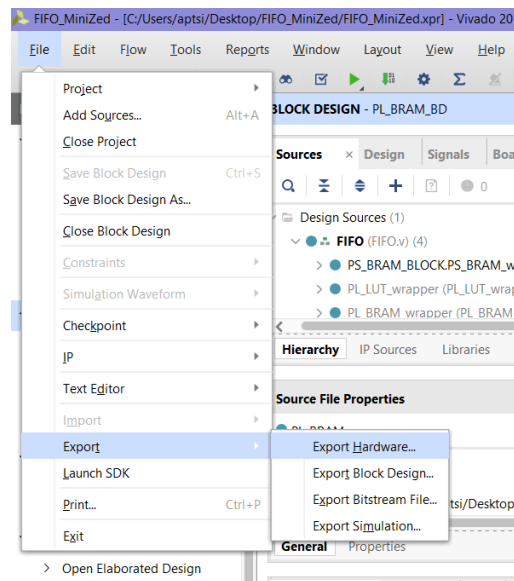

Figure 10: export hardware
Step 3: export the generated hardware to the project directory as shown in Fig. 10.